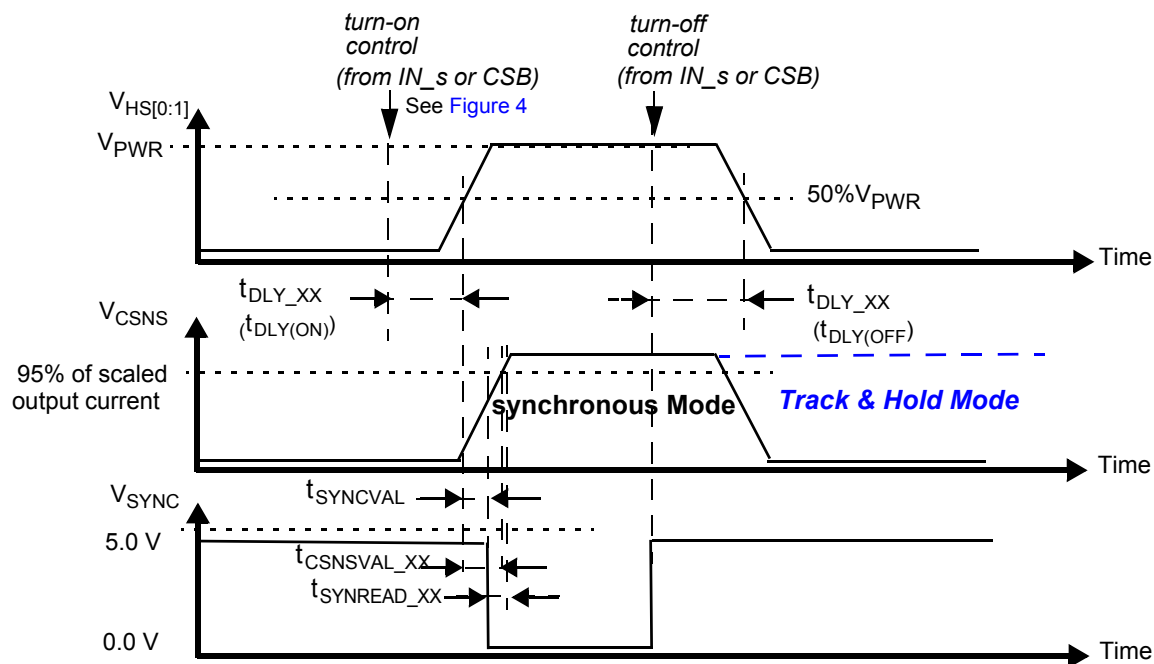

Figure 9. Synchronous and track-and-hold current sensing modes: associated delay and settling times
30. Time required to switch off the channel after detection of overtemperature (OT), overcurrent (OC), SC or UV error (time measured between start of the negative edge on the FSB pin and the falling edge on the output voltage until $V(HS[0:1]) = 50\%$ of V_{PWR}).
31. Settling time (= $t_{CSNSVAL_XX}$), SYNC output signal delay (= $t_{SYNCVAL_XX}$) and Read-out delay (= $t_{SYNREAD_XX}$) are defined for a stepped load current ($100\text{ mA} < I(\text{LOAD}) < I_{OCLX_A}$ FOR $CSNS_RATIO_S = 1$, AND $300\text{ mA} < I(\text{LOAD}) < I_{OCLX_A_0}$ FOR $CSNS_RATIO_S = 0$). (see Figure 9 and Output current monitoring \(CSNS\))
The CS pin allows independent current monitoring of channel 0 or channel 1 up to the steady-state overcurrent threshold. It can also be used to sense the device temperature. The different functions are selected by setting bits CSNS1_en and CSNS0_en to the appropriate value (Table 23). When the CSNS pin is sensed during switch-off in the (optional) track & hold mode (see Figure 9), it outputs the scaled value of the load current as it was just before turn-Off. When several devices share the same pull-down resistor, the CSNS pins of devices the current of which is not monitored must be tri-stated. This is accomplished by setting CSNS0_en = 0 and CSNS1_en = 0 in the GCR register (Table 10). Settling time ($t_{CSNSVAL_XX}$) is defined as the time between the instant at the middle of the output voltage's rising edge ($HS[0:1] = 50\%$ of V_{PWR}), and the instant at which the voltage on the CSNS-pin has settled to $\pm 5.0\%$ of its final value. Anytime an overcurrent window is active, the CSNS pin is disabled (see Overcurrent detection on resistive and inductive loads). The current and temperature sensing functions are unavailable in Fail-safe mode and in Normal mode when operating without the V_{DD} supply voltage. In order to generate a voltage output, a pull-down resistor is required ($R(CSNS)=1.0\text{ k}\Omega$ typ. and $470 < R(CSNS) < 10\text{ k}$). When the current sense resistor connected to the CSNS pin is disconnected, the CSNS voltage is clamped to $V_{CL(CSNS)}$. The CSNS pin can source currents up to about 5.6 mA.
To synchronize current sensing with an external process, the SYNC signal can be connected to a digital input of an external MCU. SYNC is asserted logic low when the current sense signal is accurate and ready to be read. The current sense signal on the CSNS pin has the specified accuracy $t_{SYNCREAD_XX}$ seconds after the falling edge on the SYNC pin (Figure 9) and remains valid until a rising edge is generated. The rising edge that is generated by the SYNC pin at the turn-OFF instant (internal or external) may also be used to implement synchronization with the external MCU. Parameter $t_{SYNCVAL_XX}$ is defined as the time between the instant at the middle of the output-voltage rising edge ($HS[0:1] = 50\%$ of V_{PWR}), and the instant at which the voltage on the SYNC-pin drops below 0.4 V (V_{SOL}). The SYNC pins of different devices can be connected together to save μ -controller input channels. However, in this configuration, the CSNS function of only one device should be active at a time. Otherwise, the MCU does not determine the origin of the SYNC signal. The SYNC pin is open drain and requires an external pull-up resistor to VDD.